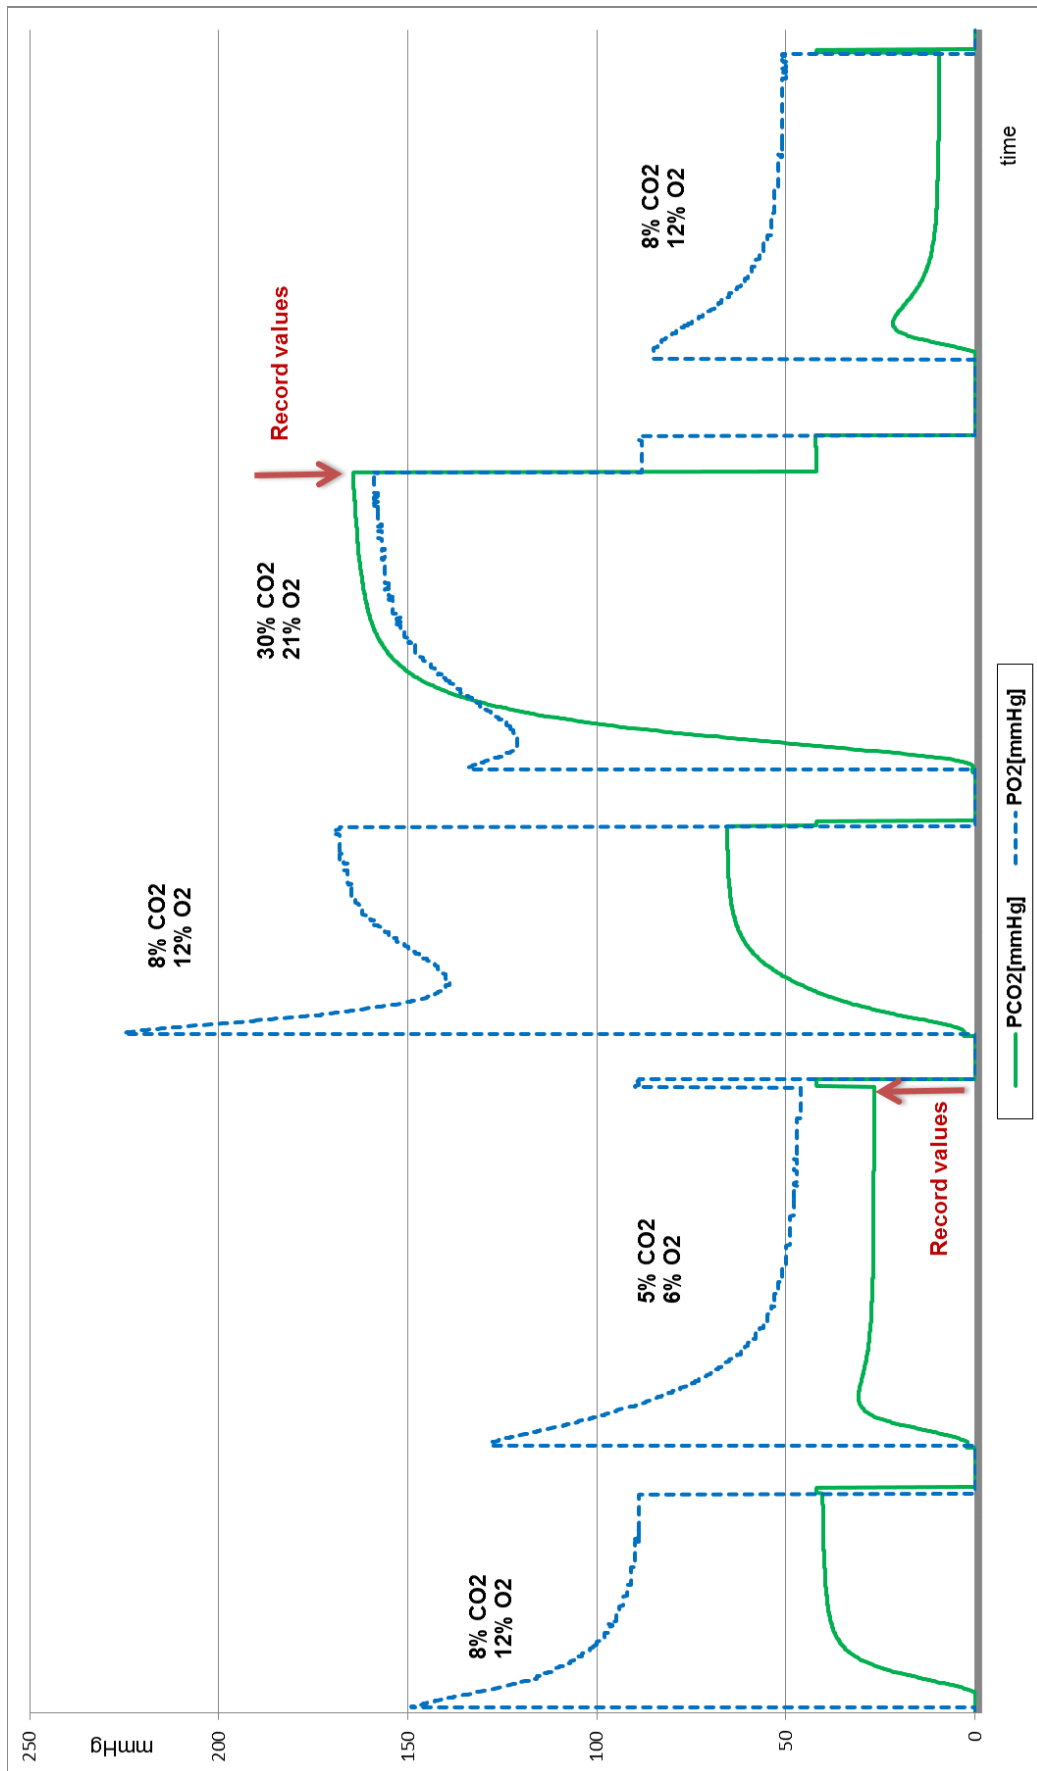

Figure 7 Examples: PCO2 and PO2 Slope Test
**Note:** Prior performing the Slope Test please ensure that the sensor is properly stabilized, i.e., stored for at least 4 hours in the Docking Station with the monitor switched on. For an overview about the Slope Test please refer to *Figure 7 Examples: PCO2 and PO2 Slope Test*.